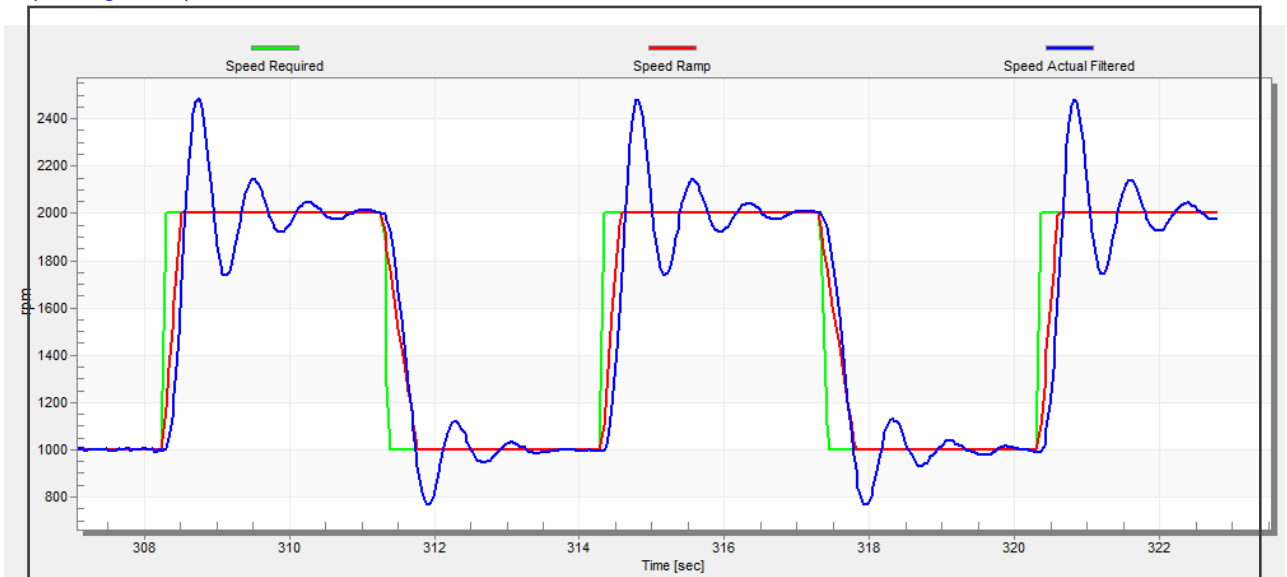

Figure 29. Speed Controller Response— $SL\_K_p$  value is low, Speed Actual Filtered greatly overshoots
- The “ $SL\_K_p$ ” value is low, the “Speed Actual Filtered” greatly overshoots, and the long settling time is unwanted (see Figure 29).